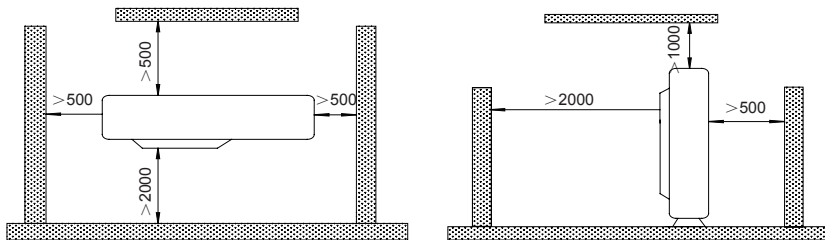

Fig.3
- ① . Install the unit where it will not be tilted by more than 5°.
- ② . During installation, if the outdoor unit has to be exposed to strong wind, it must be fixed securely.
- (1). If possible, do not install the unit where it will be exposed to direct sunlight. (If necessary, install a blind that does not interfere with the air flow.)
- (2). Install the outdoor unit in a place where it will be free from getting dirty or getting wet by rain as much as possible.
- (3). Install the outdoor unit where it is convenient to connect the indoor unit.
- (4). Install the outdoor unit where the condensate water can be drained out freely during heating operation. Do not place animals and plants in the path of the warm air.
- (5). Take the air conditioner weight into account and select a place where noise and vibration are small.
- (6). Install the outdoor unit where is capable of withstanding the weight of the unit and generates as less noise and vibration as possible.
- (7). Provide the space shown in Fig.3, so that the air flow is not blocked. Also for efficient operation, leave three of four directions of peripheral constructions open.